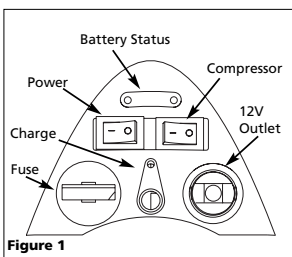

Figure 1
- 1) Turn POWER switch on (see Figure 1).